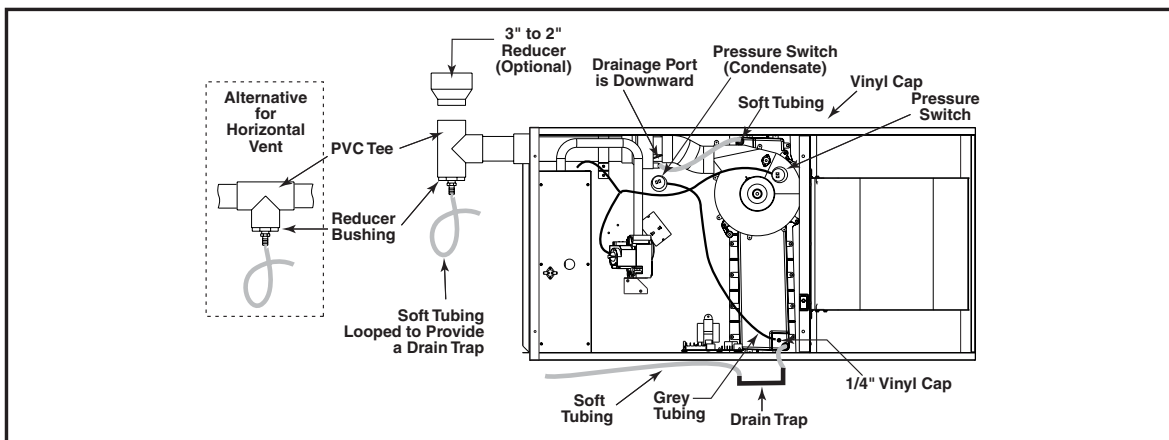

Figure 4. 90+ Upflow Converted for Horizontal Installation (Horizontal Left)
Refer to Figure 4 for details and description of parts required for the horizontal left conversion.
2. Ensure that the piece of soft tubing running from the in-line drain assembly to the header box is in place with the drain oriented downwards (See Figure 4).
NOTE: When converting the furnace, to horizontal left, ensure that the drainage port on the in-line drain assembly is downward as shown in Figure 4. If the in-line drain assembly is not rotated, then the furnace may not drain properly.